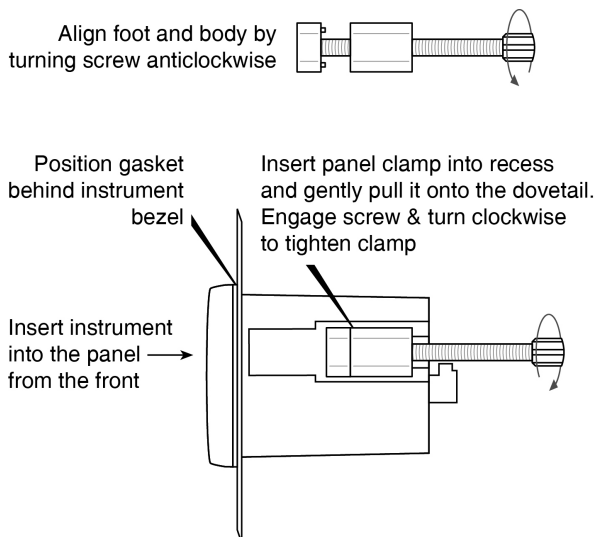

Fig 7 Fitting panel mounting clamps
- Place a clamp in the recess on each side of the meter, pulling gently to slide it onto the dovetail as shown in Fig 7. Push the knurled screw slightly forward to engage the thread and tighten by turning clockwise until it is just finger tight. When both clamps are fitted ensure that the gasket behind the front panel bezel is correctly positioned before fully tightening the clamps to secure the instrument. The maximum recommended clamp tightening torque is 22cNm (1.95 lbf in) which is approximately equivalent to finger-tight plus one half turn. **Do not over tighten.**